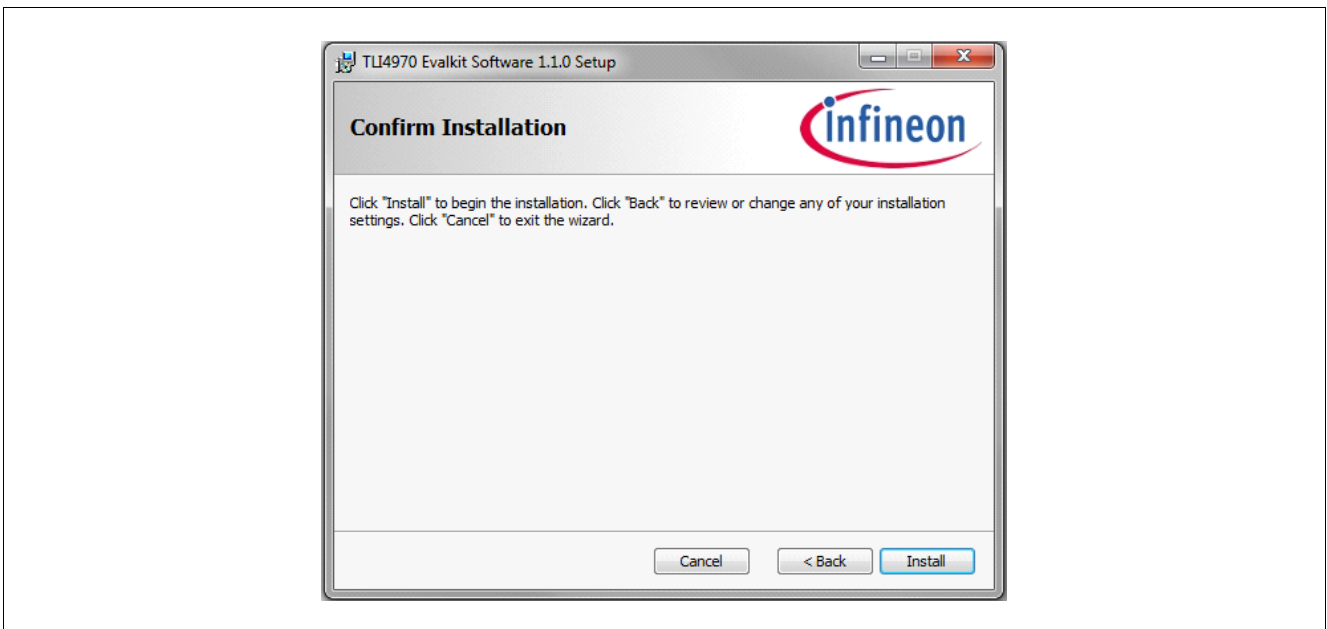

Figure 5 EvalKit Installer - Confirm Installation
4. By pressing the '**Install**' button, the installation of the programmer driver and the GUI is started, see Figure 5.